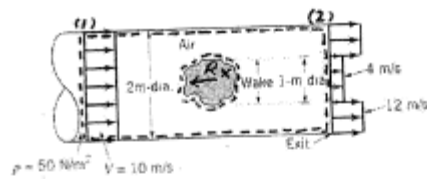

FIGURE P5.129
5.129 Air flows past an object in a pipe of 2-m diameter and exits as a free jet as shown in Fig. P5.129. The velocity and pressure upstream are uniform at 10 m/s and 50 N/m², respectively. At the pipe exit the velocity is nonuniform as indicated. The shear stress along the pipe wall is negligible. (a) Determine the head loss associated with a particle as it flows from the uniform velocity upstream of the object to a location in the wake at the exit plane of the pipe. (b) Determine the force that the air puts on the object.